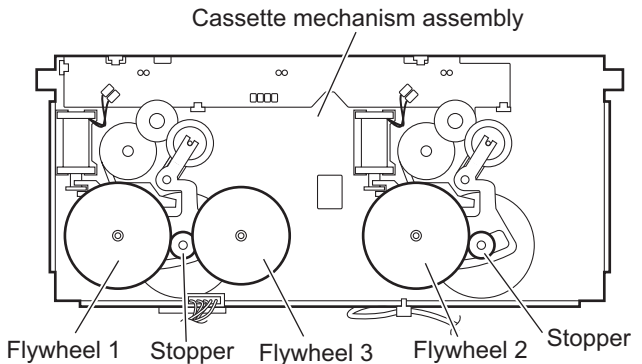

Fig.5
- (2) From the back side of the cassette mechanism assembly, pull out the flywheel 1, flywheel 2 and flywheel 3. (See Fig.5.)
- (3) Remove the stoppers in an upward direction. (See Fig.5.)